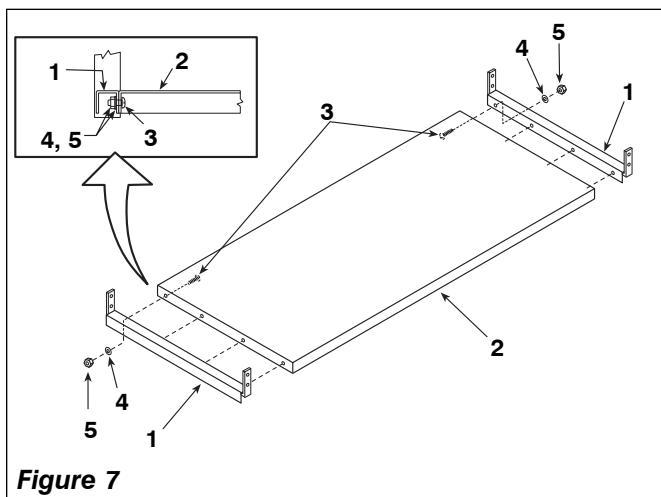

Figure 7
(Refer to Fig. 7 and 8)
2. Begin assembly of the shelf by attaching the two end mounting stretcher brackets (1) to the shelf (2) using four 1/4 x 3/4" pan head bolts (3), lock washers (4) and nuts (5) at each end as illustrated. (Fig. 7)